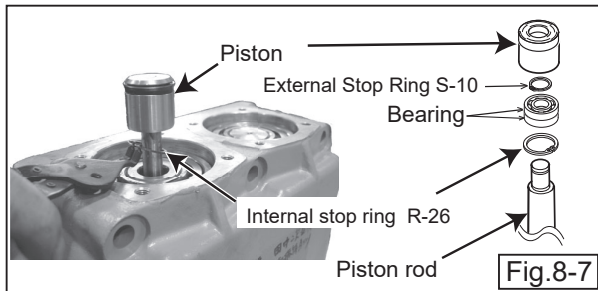

Fig.8-7
- b. Come out the piston AY (15) from vibrator case by rotating the driven gear (31). (Fig.8-7)